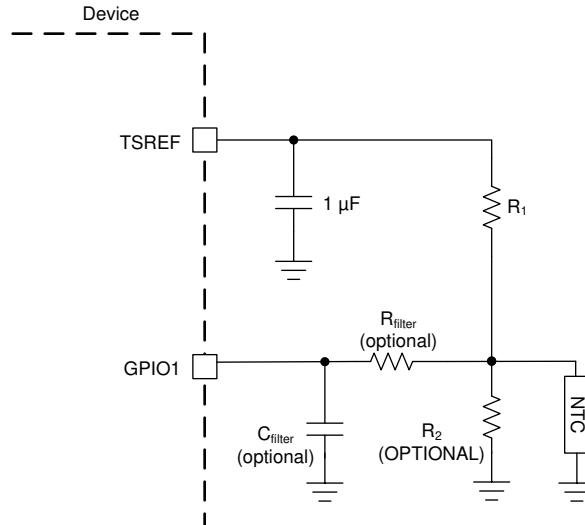

图 8-3. Thermistor Connection
图 8-3 shows the thermistor circuit when GPIO is enabled for thermistor measurements. MCU ensures TSREF is enabled by setting $CONTROL2[TSREF_EN] = 1$ and settled before taking the measurement value.
- $R1$ is the pull-up resistor as shown in 图 8-3 with the assumption the $R2$ is not used